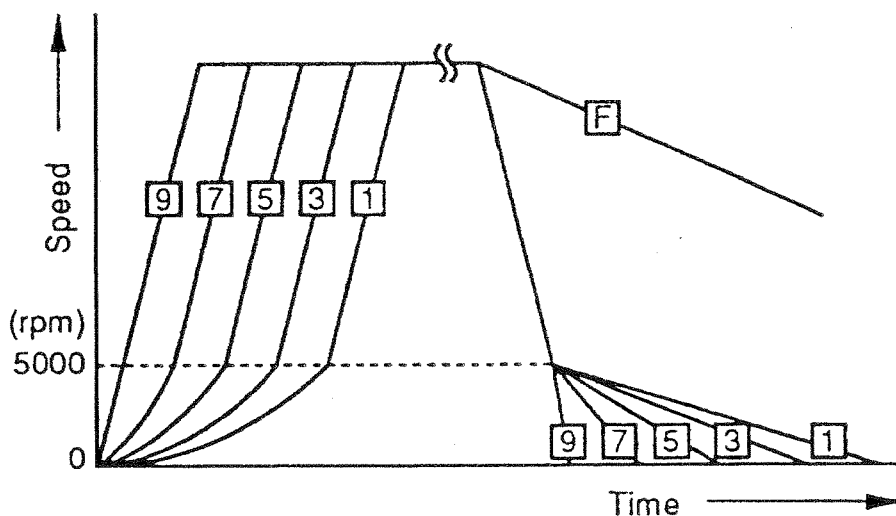

Figure 3-2. Examples of Acceleration/Deceleration Rates
The rotor acceleration and deceleration rates can be optimized to allow the minimum time possible without causing disturbance to the gradient or pellet (see figure 3-2).
The numbers on the curves in figure 3-2 are keyed to the Code Numbers in Table 3-2. To achieve the desired acceleration/deceleration rate, press either **ACCEL** or **DECEL** and input the Code Number that corresponds to the desired rate. If no rate is selected, the maximum rate (9) will be used. Deceleration rate can be changed while the rotor is decelerating.